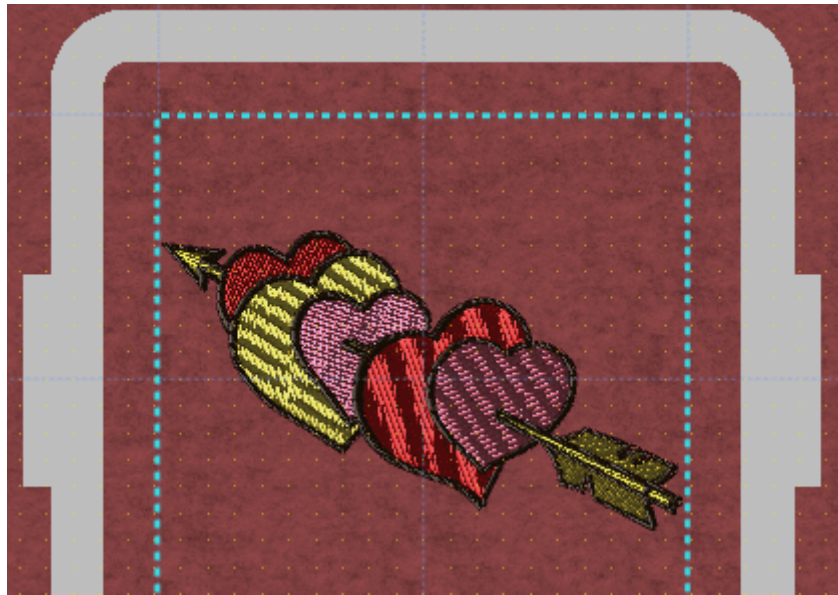

Figure 2.36: The imported design converted to stitches
22. The design will appear in the working area filled with stitches (Figure 2.36).